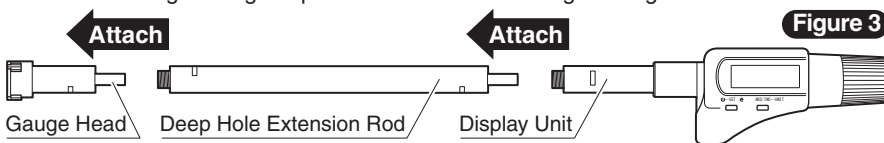

Figure 3
2. Attach the extension rod to the measurement head and then attach to the display unit. Tighten with accessory spanners. **See Figure 3**